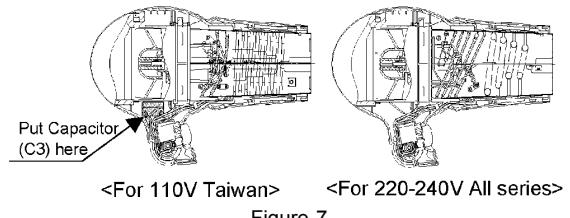

Figure 7
6. Fasten lead wires with Belt, then install Air Flow Block into Housing B, then assembly Housing A as shown in Figure 7.